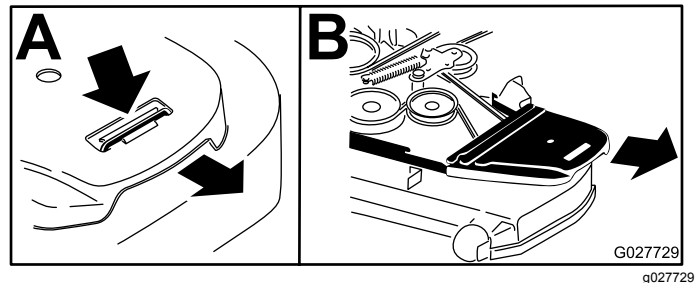

Figure 74
4. Remove the belt covers (Figure 74).